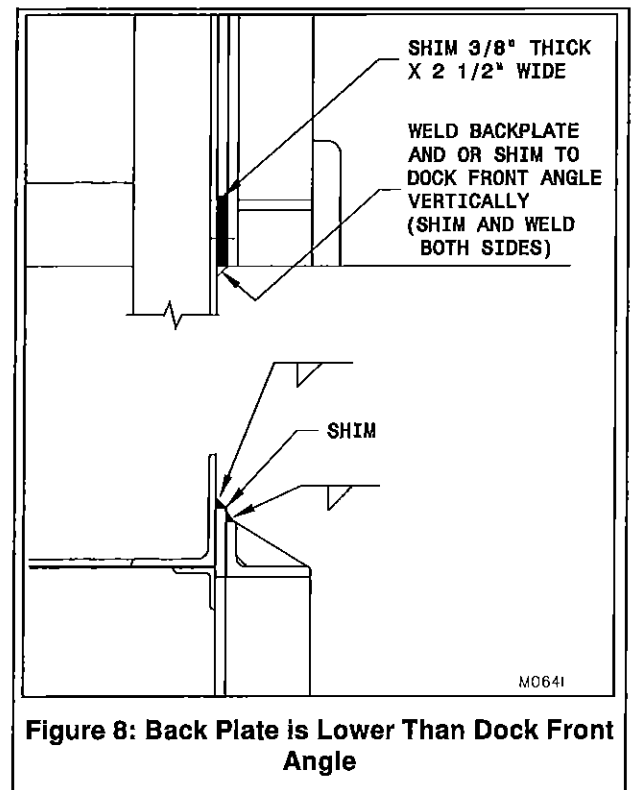

Figure 8: Back Plate is Lower Than Dock Front Angle
- n) If the back plate of the restraint is lower than the top of the front angle of the dock leveler, shim between the top angle of the back plate and the front angle of the dock leveler and weld the shim to both as shown in Figure 8, page 10.